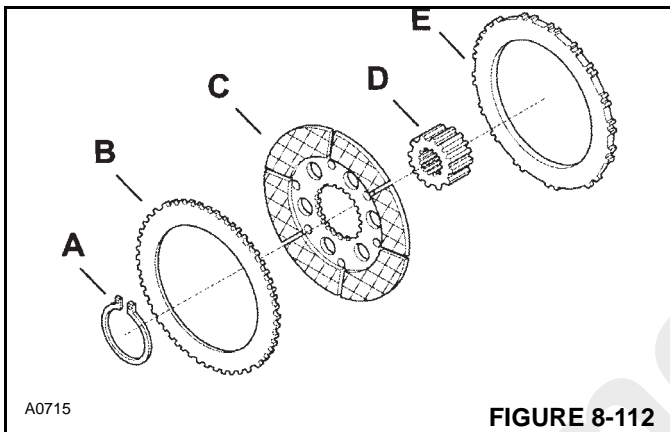

FIGURE 8-112
Assemble the components of the brake assembly inside the brake flange in the sequence shown in Figure 8-112: counterdisc (E), coupling (D) with the retainer ring groove outward, friction disc (C), retaining ring (A) and counterdisc (B).